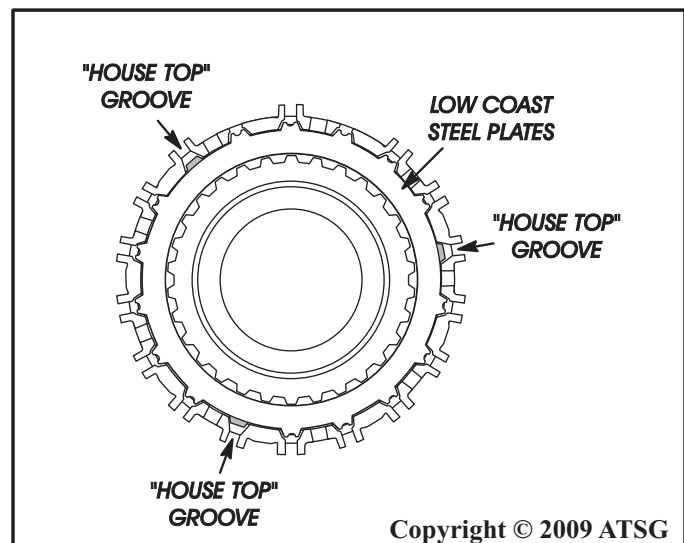

Figure 187
Note: The low coast steel plates have a small "V" notch in the center of each lug, and one lug eliminated every 120 degrees, as shown in Figure 187.
5. The steel plates **must** be installed with missing lug lined up with "house top" grooves in the forward clutch piston, as shown in Figure 187.